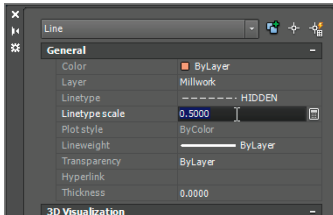

FIGURE 6.22 Adjusting the Linetype Scale property
- Change Linetype Scale to **0.5** in the General section of the Properties panel (see Figure 6.22).